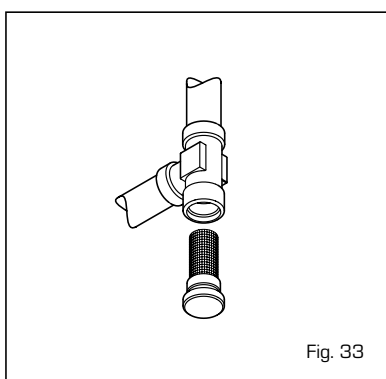

Fig. 33
### 4.8.1 Cleaning the C.H. water filter (fig. 33)
- The primary water filter is obstructed with impurities (fig. 33); clean the filter.